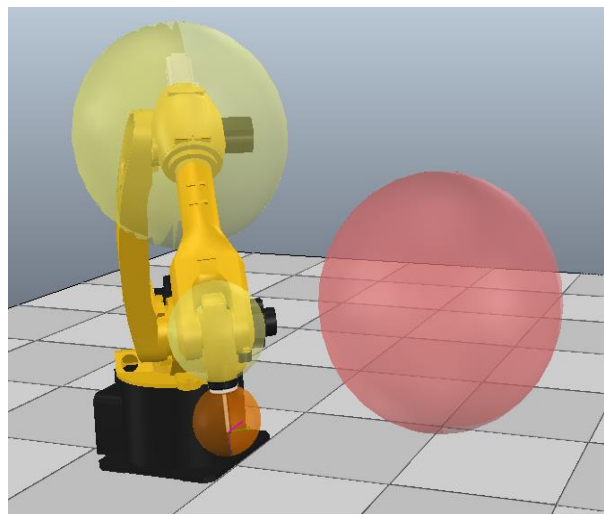

Figure 6-81 Robot's "Axis Envelope" and "Tool Envelope" boundaries are outside the prohibited zone
Step3.When both "Tool Envelope" and "Axis Envelope" are enabled, it can be seen from Figure 6-81 that the robot's "Axis Envelope" and "Tool Envelope" boundaries are within an interval without warning outside the prohibited zone "Sphere".